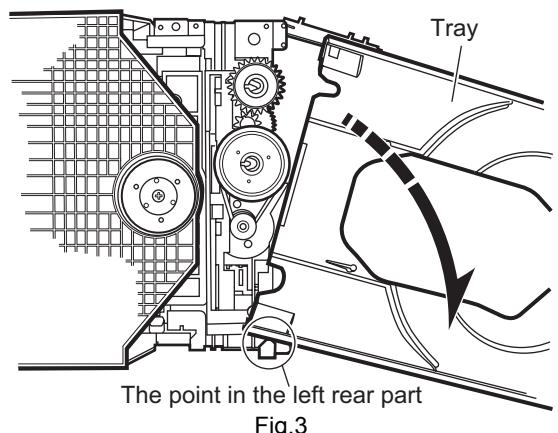

Fig.3
- (4) Tilt the tray in a direction of the arrow around the point in the left rear part of the tray. (See Figure 3.)